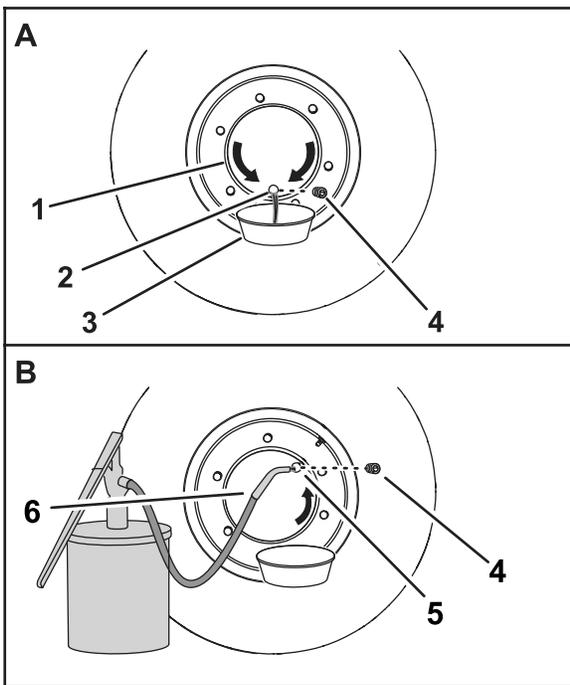

Figure 96
3. Move the machine forward or backward until the plug is at the 6 o'clock position (Figure 96).
- Place a drain pan under the oil port of the wheel hub (Figure 96).
- Remove the plug and drain the oil from the planetary (Figure 96).
- Move the machine forward or backward until the plug is either at the 2 o'clock (Figure 96) or the 10 o'clock position.